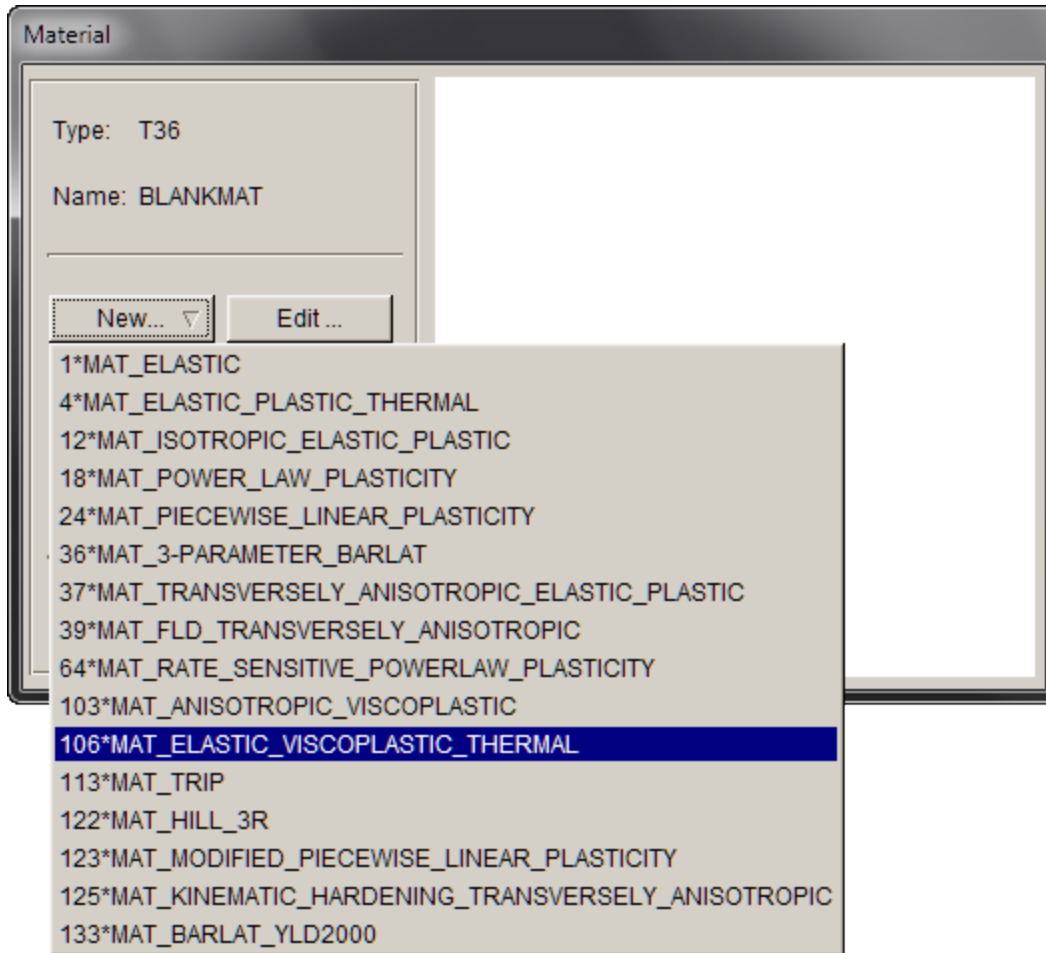

Figure 11
2. Select the model **106*MAT_ELASTIC_VISCOPLASTIC_THERMAL** (Figure 11).